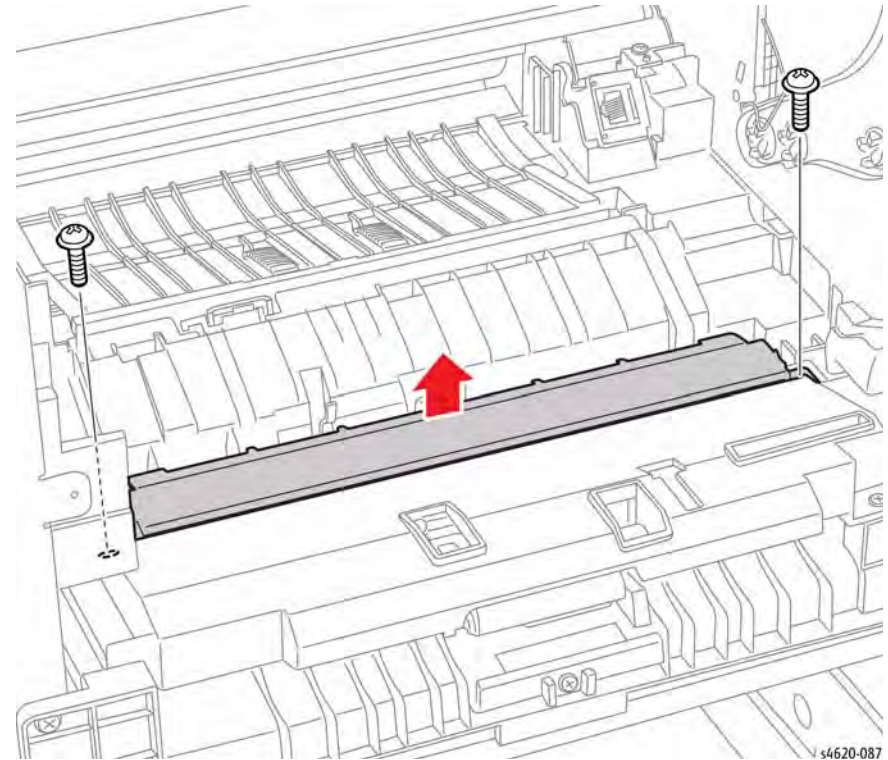

Figure 1 Remove the envelope guide screws
9. Remove 2 screws (plastic) that secure the envelope guide to the frame, Figure 1.